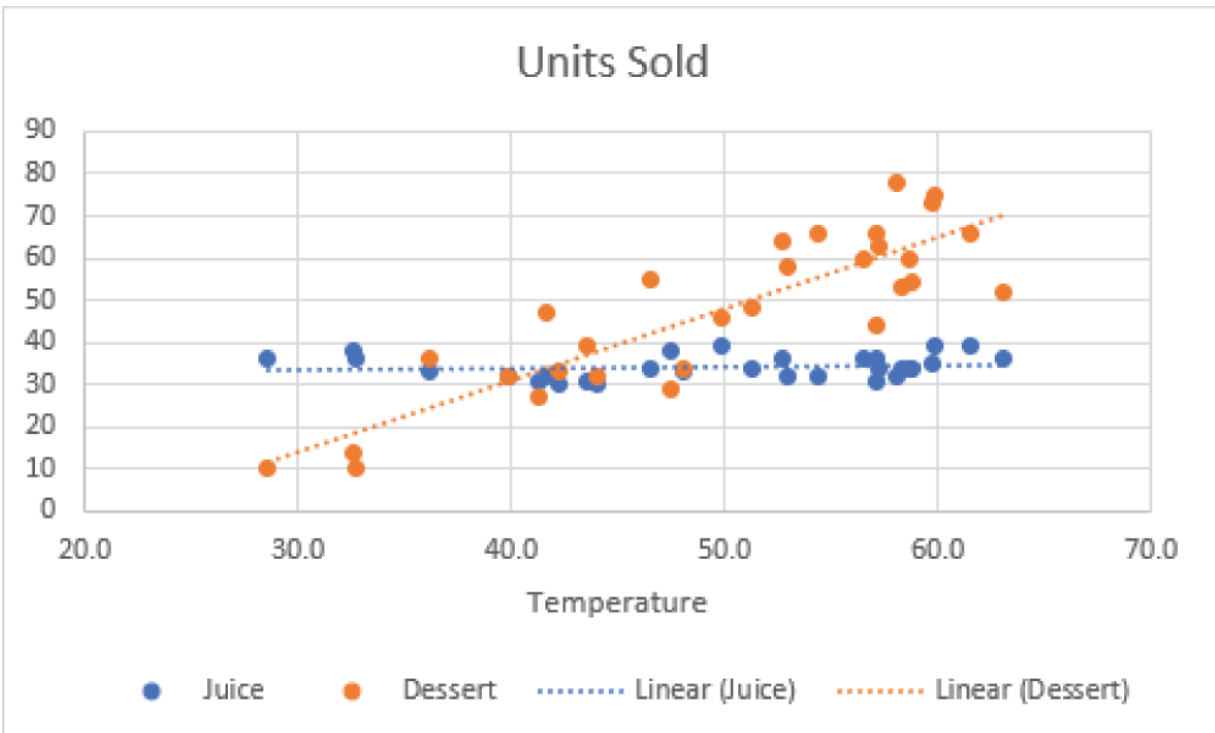

Figure 7.34: Smoothie type vs. temperature
- Figure 7.34 shows the final chart.